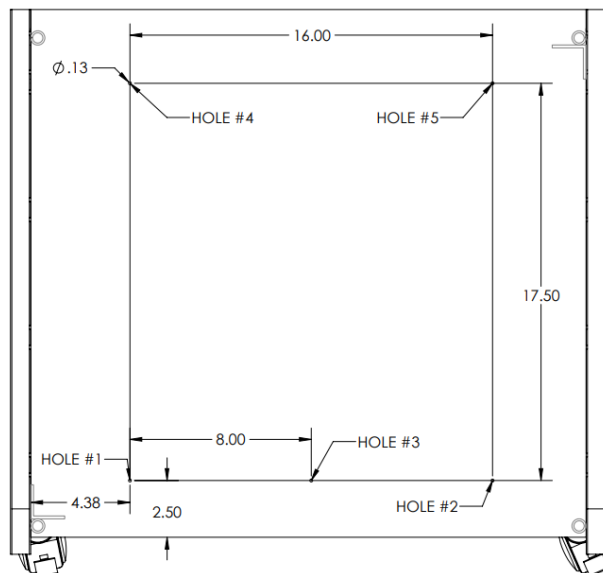

Figure 1 Pilot Hole Guide
- d. A diagram of the pilot hole placement is shown below in Figure 1 Pilot Hole Guide.